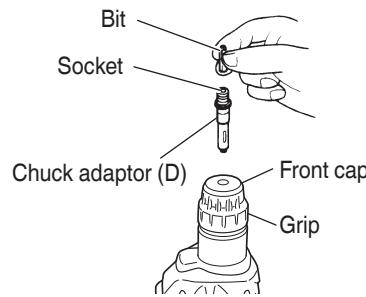

Fig. 11
## 4. When driving machine screws (Fig. 11)
- Do not attempt to use the rotary hammer in the rotation and striking function with chuck adaptor (D) and bit attached.
5. When driving wood screws (Fig. 11)